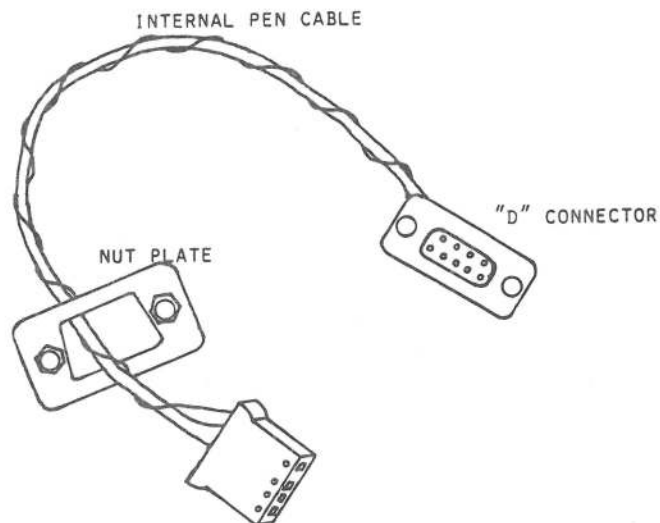

FIGURE 1
1. Find the internal pen cable and one of the nut plates (see Figure 1). This cable has a "D"-shaped connector at one end and a small slip-on connector at the other end with four holes in it. Put the slip-on connector through the nut plate, with the nuts facing away from the "D"-shaped connector.